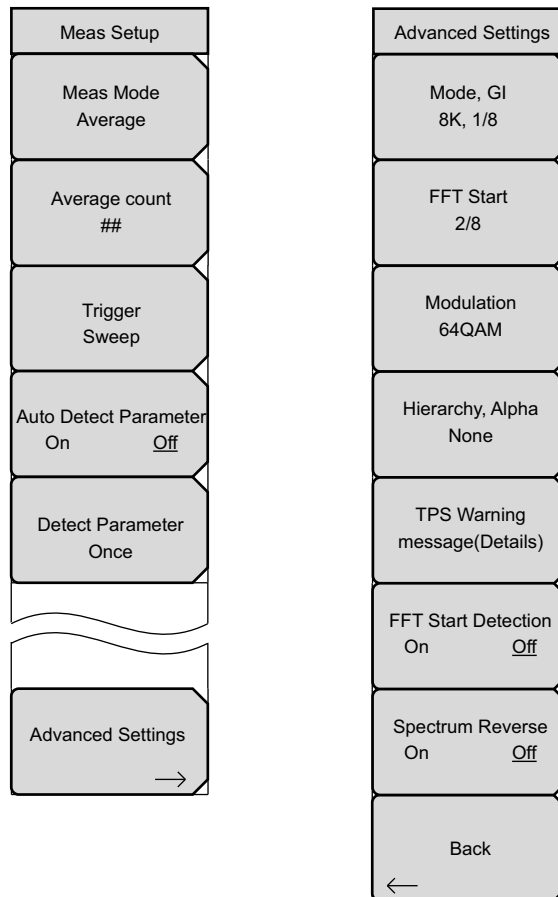

Figure 2-18. Measurement Setup Menu
1. Press the **Setup** main menu key to open the Meas Setup menu (Figure 2-18). These menus are not available when using the BER measurement option (refer to “DVB-T/H BER Measurements (Option 57 only)” on page 2-37 and Figure 2-31, “DVB-T/H BER Measurements Menu Group (Option 57 Only)” on page 2-43).